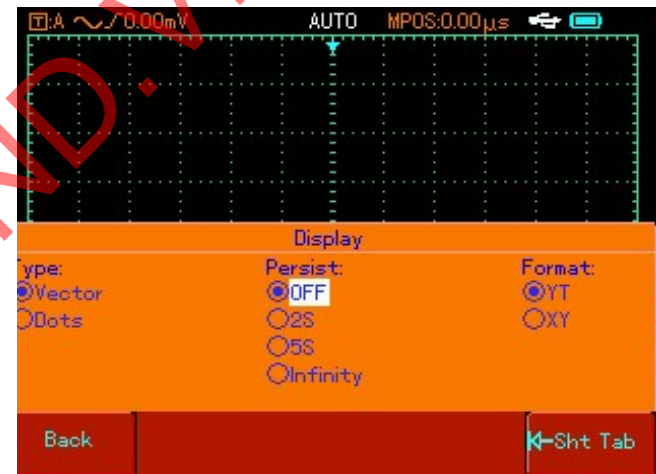

Figure 2-4 Operating the “Continuous” Menu with the jog dial
c. With the jog dial, select dot as the display type. The selected menu will appear bold. Then press the jog dial once to confirm. "Dot" is now selected as the display type, and the bold selection indicator on the screen will automatically jump to the continuous menu, as shown in Figure 2-4. Turn the jog dial to set continuous mode to 5s, then press the jog dial once to confirm. The screen
Note : When operating the menu as shown in Figure 2-4, if the menu selection indicator is at "continuous", you can press the return key [F5] to go back to the previous type menu to reset that page.